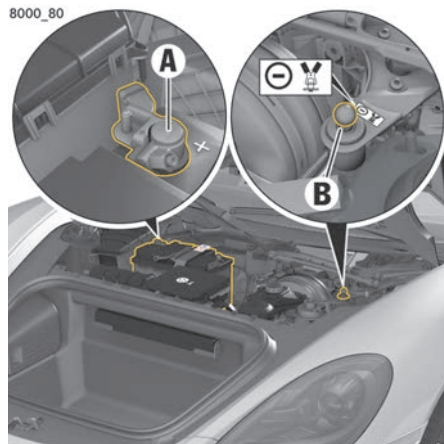

Fig. 37: Battery terminals
- ▶ When jump-lead starting, never connect the black negative cable directly to the battery. Always connect the black negative cable to the ground point **B** (Fig. 37 on page 61).